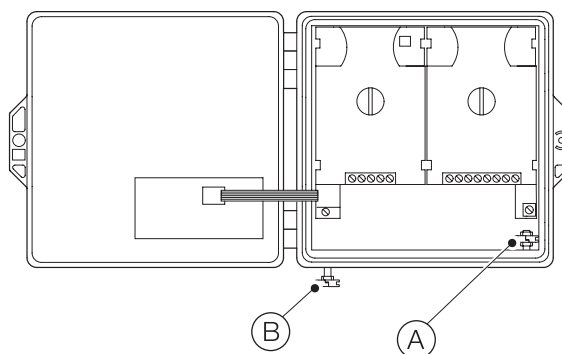

Figure 14 AWT210 ground connections
Referring to Figure 14, ground connections are provided: internally (A) and externally (B).